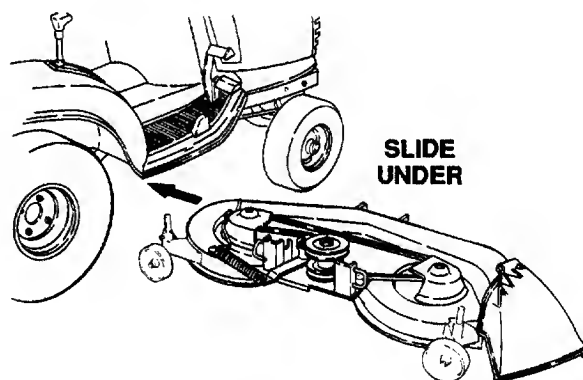

Figure 46
3. Refer to Figure 46 and position the deck on the right side of the tractor with the front of the deck facing toward the front of the tractor. Raise the tractor implement lift handle to its highest setting and slide the deck under the tractor.
4. To ease sliding the deck out from under the tractor, the rear gauge wheels may be repositioned as shown in Figure 46. To reposition the gauge